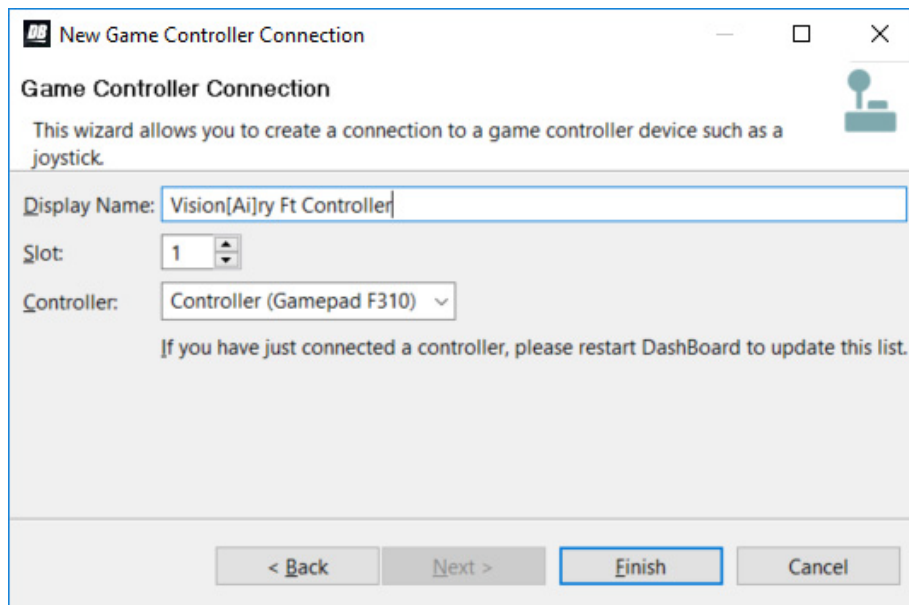

Figure 111 - Connecting to a USB controller
5. In the **Wizards** list, expand **Input Devices**, select **New Game Controller**, and then click **Next**. The **New Game Controller Connection** dialog box appears (Figure 111).